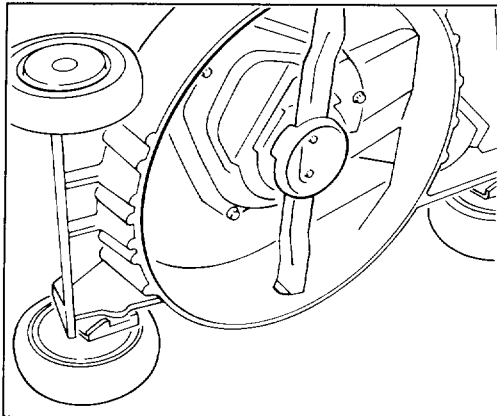

Figure 29
2. Tip mower on its right side (Fig. 29). Avoid rotating blade because starting problems may result.